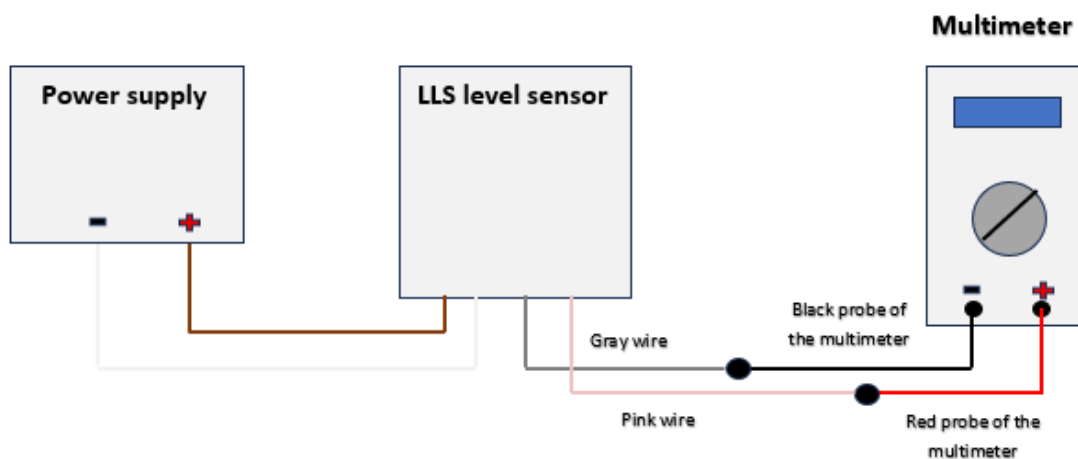

Fig. 8 Connection Diagram
2. Assemble the connection circuit according to "Fig. 8 Connection Diagram".